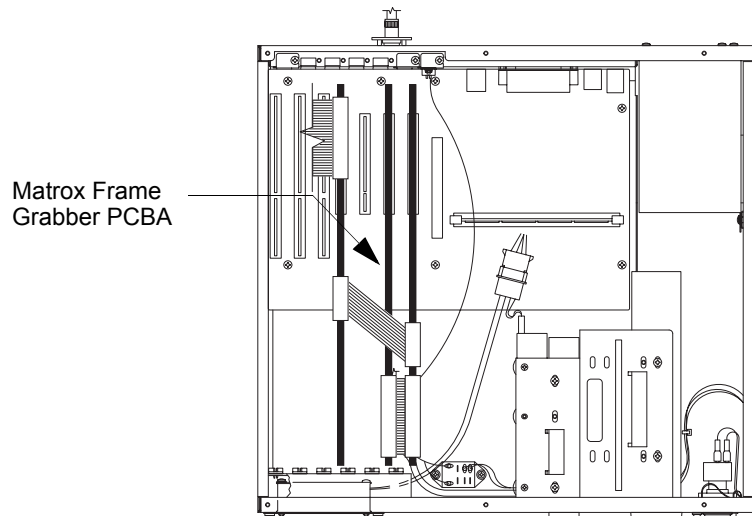

Figure 9-23 Location of the Matrox Frame Grabber PCBA
4. Note the orientation of all cables prior to their removal; see Figure 9-23.